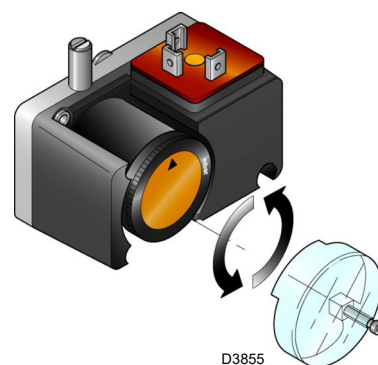

Fig. 34
- Adjust the minimum gas pressure switch (Fig. 34 at page 35) to the start of the scale.
Adjust the minimum gas pressure switch (Fig. 34) after having performed all other burner adjustments with the pressure switch set to the start of the scale.